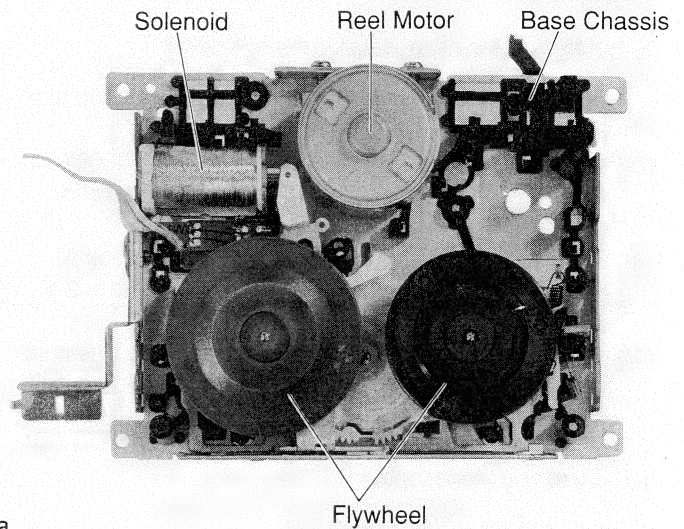

Figure 17
- (1) After removal of the main motor bracket, remove two flywheels by removing two washers (A) as shown in Figures 17 and 18.